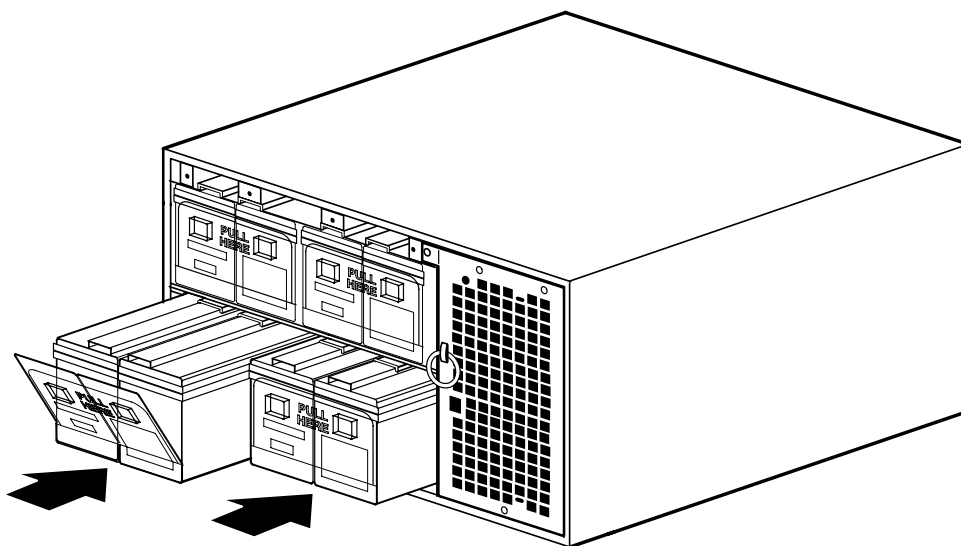

Figure 52. Installing the UPS Battery Trays
5. Slide the new battery trays into the cabinet (see Figure 52). Verify each tray is properly aligned before sliding the tray in.